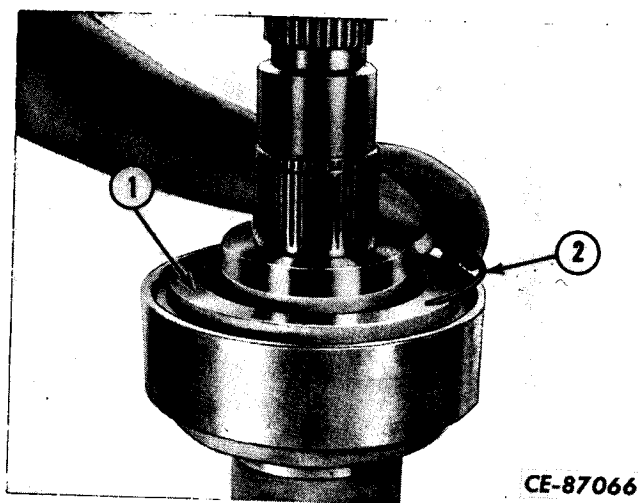

Figure 4-30
Using a plastic mallet, tap clutch piston (1, Fig. 4-30) down making snap ring (2) accessible. Remove snap ring.
Invert shaft assembly. Depress clutch piston (1, Fig. 4-30) into piston housing. Remove special snap ring groove filler. Install snap ring (2).